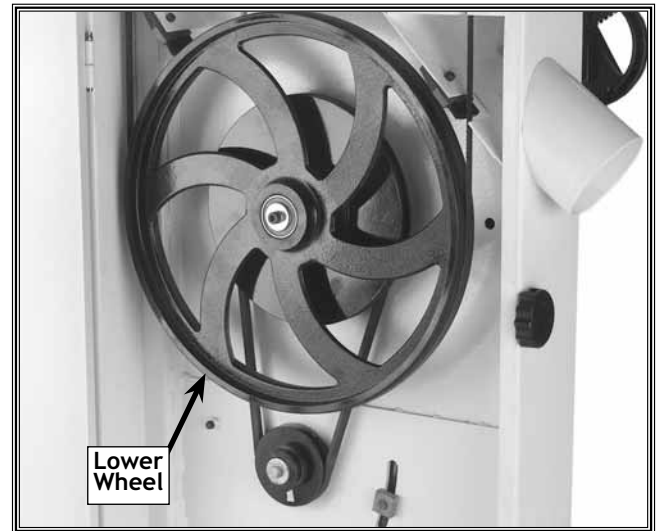

Figure 34. Lower wheel.
Perform this adjustment if the **Wheel Alignment Test** procedure from **Page 14** indicates you must do so. This adjustment will tilt the bottom wheel (see **Figure 34**) so both wheels are aligned with each other.
4. Loosen all the jam nuts on the tilt adjustment hub. See **Figure 34**.